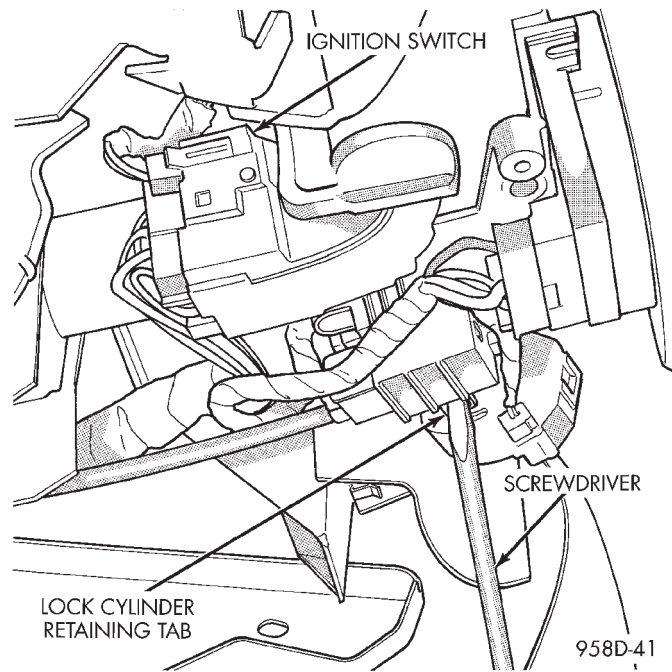

Fig. 62 Lock Cylinder Removal
(12) Place key cylinder in RUN position. Depress lock cylinder retaining tab and remove key cylinder (Fig. 62).